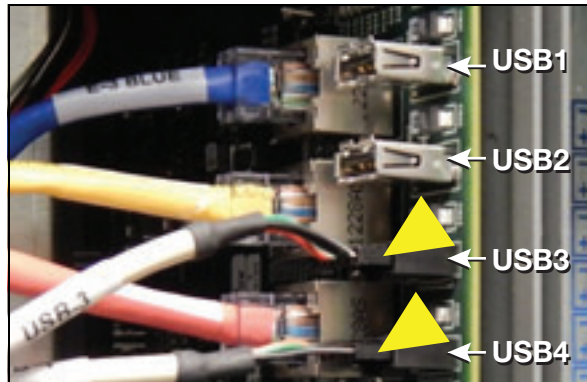

Figure 8. Remove USB Module Cables From CPU Board
- Figure 8. Remove USB Module Cables From CPU Board 7
8. Remove the two USB module cables from the CPU board USB connectors USB3 and USB4 (see Figure 8).
5. Reconnect the two USB module cables to USB connectors USB3 and USB4 (ref. Figure 8).